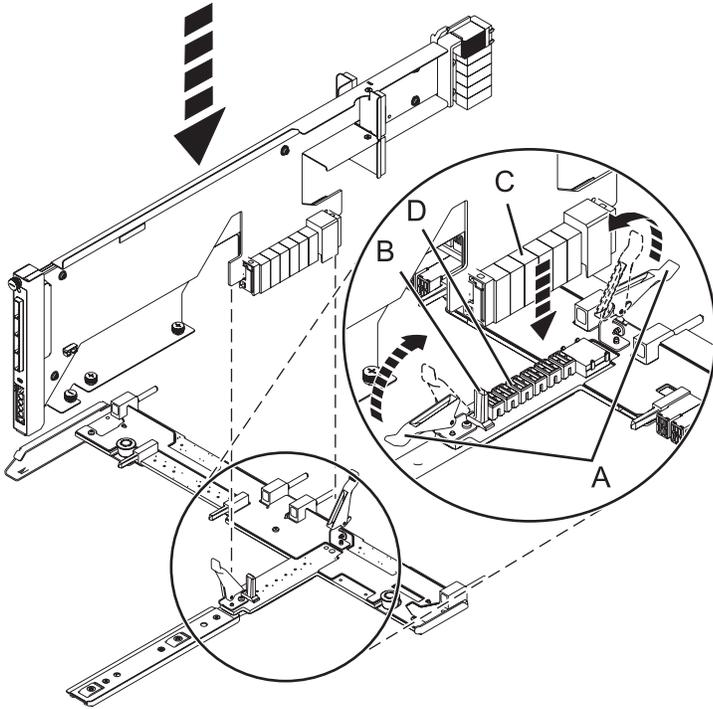

Figure 68. Installing the SAS conduit card into the midplane
- a. Place the card connector (C) on the midplane connection (D) using the guide track (B) to ensure a good connection.
- b. Lift the handle (A) to seat and secure the SAS conduit card to the midplane as shown in Figure 68 on page 90.